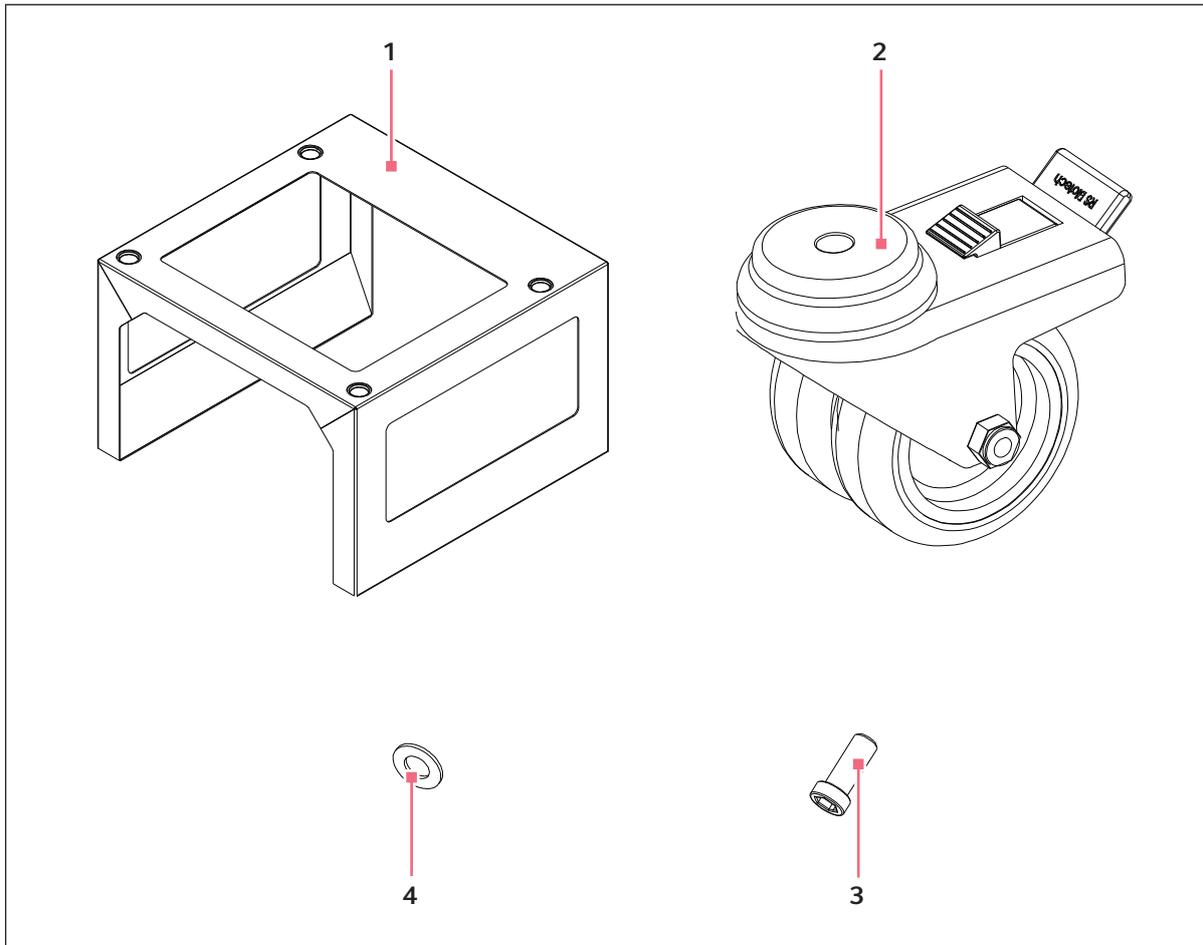

Fig. 11-1: Base stand components
2. Identify Base Stand, Castors, M10 Lock - Nuts and Washers (see Fig. 11-1 on p. 69).